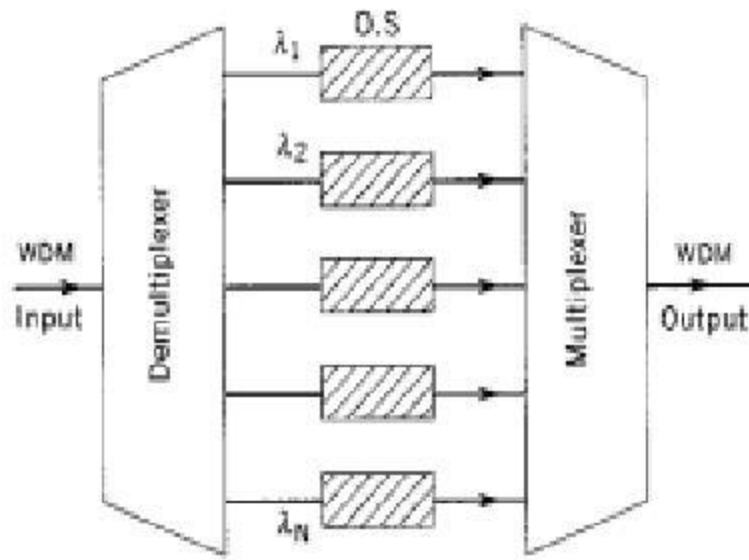

Figure 3.4: A generic add-drop multiplexer based on optical switches
- Figure 3.4 shows a generic add–drop multiplexer schematically;